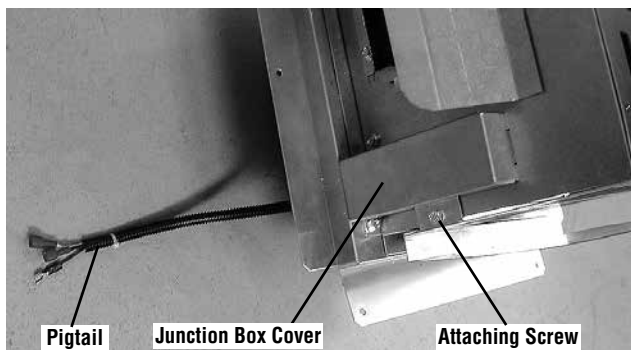

Figure 28: Bottom of Termination
- Locate a locally procured electrical junction box within reach of the termination wiring pigtail (*refer to Figure 28 on Page 23*) and route the pigtail to the junction box as the termination is installed.
- Remove the junction box cover from the termination by removing the attaching screw (refer to Figure 28).
- Loosen the strain relief on the termination shown in Figure 28. Pull the pigtail in and shorten it to fit within the junction box cover.